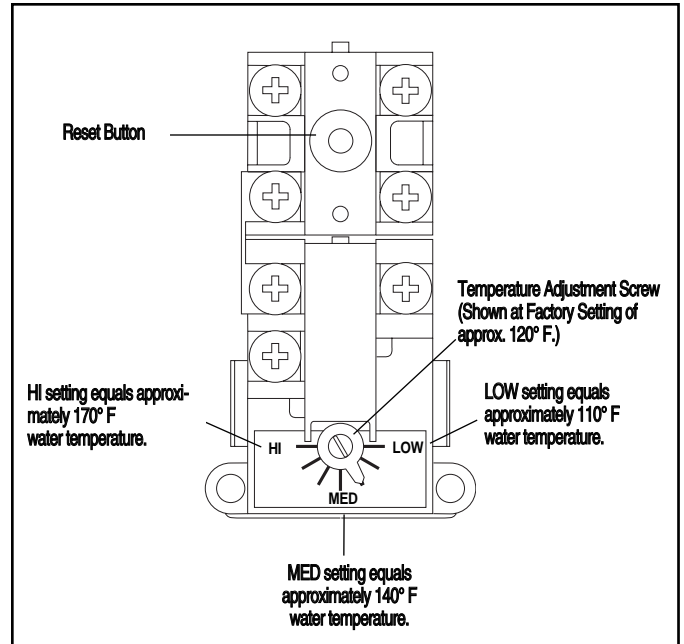

Figure 11 — Upper Thermostat temperature adjustment.
- B. Remove the four (4) screws securing the thermostat access panel and the two (2) thermostat insulation pads, exposing the thermostat. The plastic personnel protector should not be removed.
- C. With a small screwdriver, adjust the thermostat setting. This thermostat is marked LOW / MED / HI. The 120°F factory set position (the recommended setting) is at the 5 o'clock position (Refer to Figure 11). The temperature settings range from approximately 110°F (LOW) to approximately 170°F (HI). The MED position results in approximate water temperature of 140° F.
- D. Replace the two (2) pieces of fiberglass insulation over the thermostat and attach the thermostat access panel.